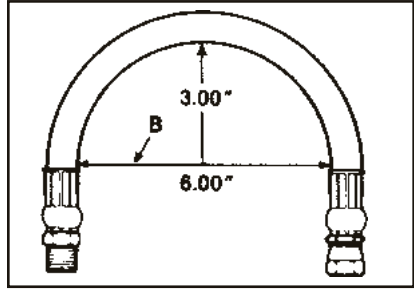

Fig.7
9. Route hose and secure to stay out of the path (swing diameter) of the transmission output yoke. (Fig 7)